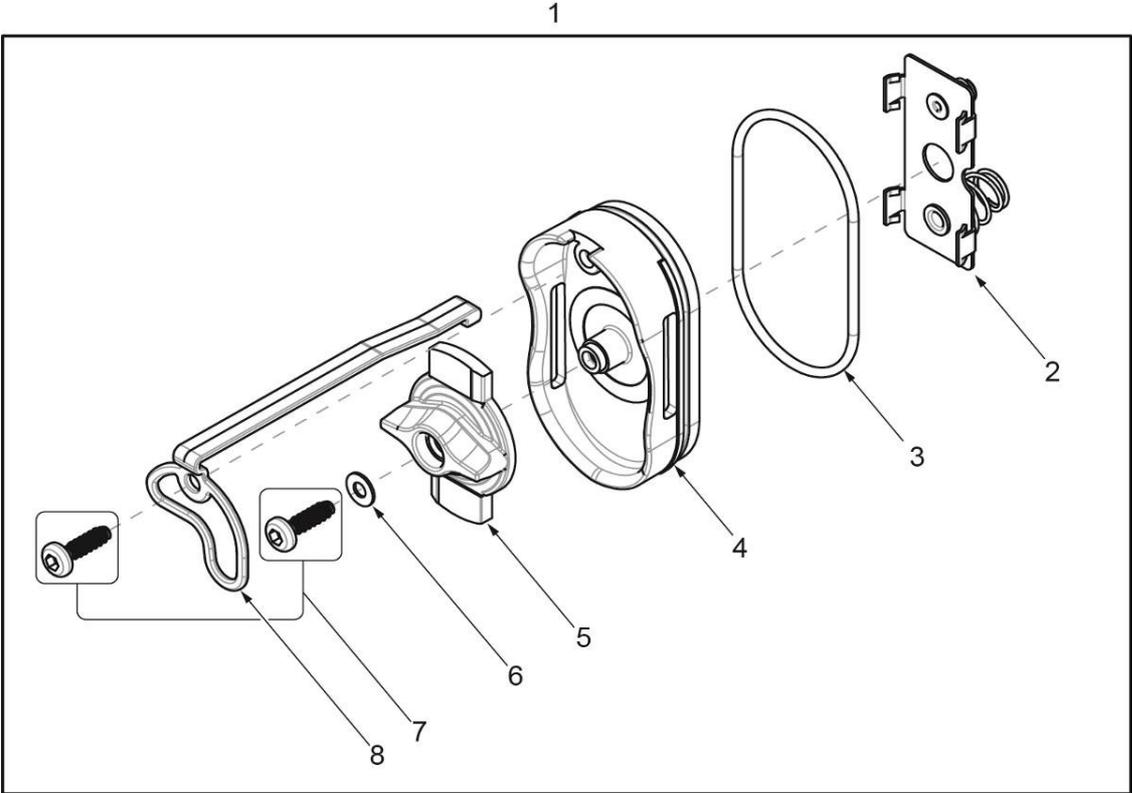

Figure 90: Battery Lid Kit
- Remove the two (2) screws (12mm) from the battery compartment. Figure 90.
- Slide the battery compartment into position. Figure 90.
- Insert the two (2) mounting screws (12mm).